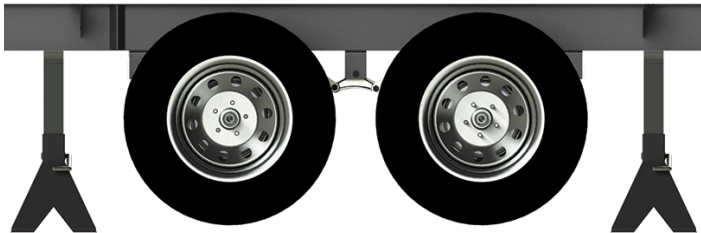

Fig.1
1. Using the properly-rated floor jacks, lift the trailer according to the manufacturer's recommendations until the wheels are no longer in contact with the ground (Fig.1).